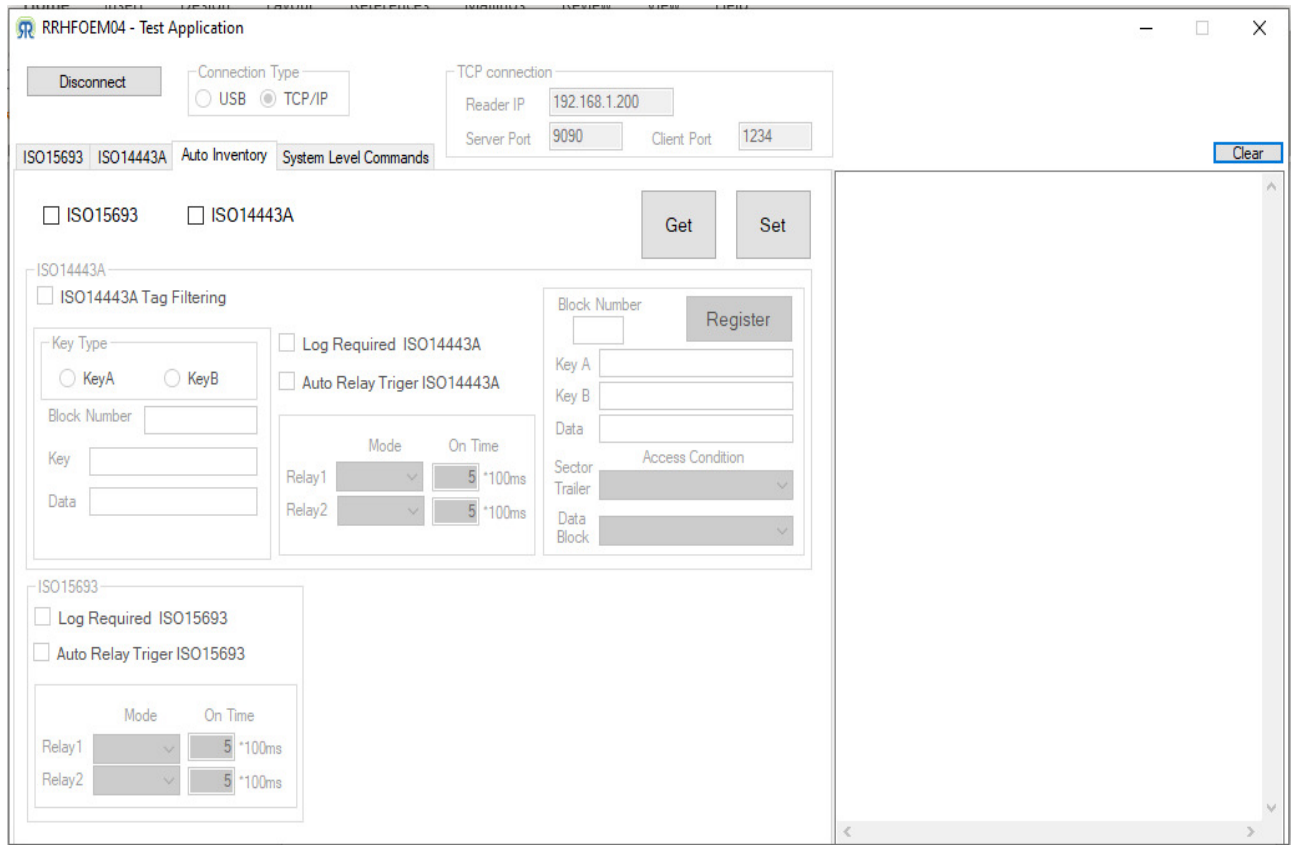

Fig.10 Auto Inventory command tab
- b) Select Auto Inventory tab which is shown in fig.10.